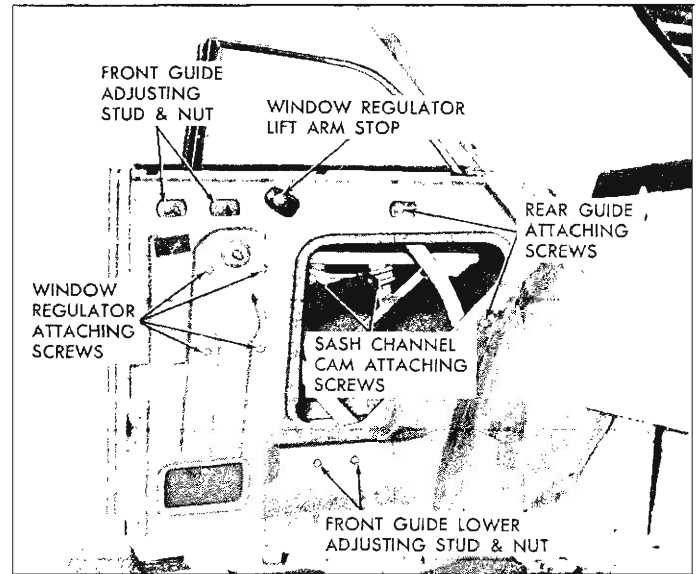

Fig. 21—"47" Style Rear Quarter Hardware
3. Remove rear quarter window rear guide attaching screws (fig. 21). Disengage guide from roller on window lower sash channel and remove guide.
2. Remove rear quarter window rear guide attaching screws (fig. 21). Disengage rear guide from
3. With the rear quarter window in the half-down position, remove the lower sash channel cam attaching screws (fig. 21). Detach from roller on regulator arm and remove cam.
4. Remove rear quarter window front guide adjusting stud nuts (fig. 21).
2. To adjust the window fore or aft, loosen the front and rear guide attaching stud nuts (fig. 21). Position the window and guides fore or aft as required; then tighten the attaching stud nuts.
3. To adjust the rear quarter window in or out, loosen the front guide upper attaching stud nuts (fig. 21). Adjust the studs in or out as required; then tighten the stud nuts.
6. To limit the forward and upward travel of the rear quarter window, adjust the regulator lift arm stop as required (fig. 21).
2. Remove rear quarter window regulator attaching screws (fig. 21); then remove regulator assembly through large access hole.
2. With window in "up" position, remove the window front guide upper and lower attaching stud nuts (fig. 21).
2. With the window in the up position remove the window rear guide attaching screws (fig. 21).